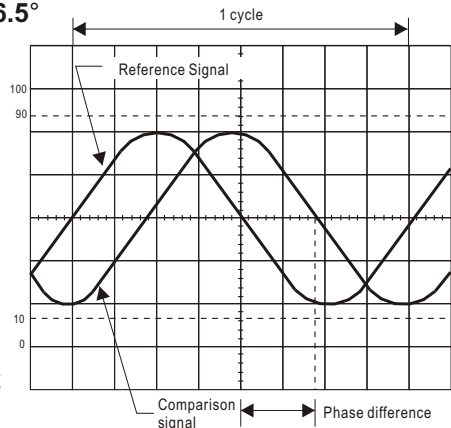

Fig. 15
In the example shown in Fig.15, a period of  $40 \mu\text{s}$  is observed. Substituting this value into the above equation, the frequency is calculated as follows:
(Refer to Fig.15)
3. Use the Y POSITION control to position the waveforms in the vertical center of the screen. Use the TIME/DIV and VAR SWEEP controls to adjust the display so one cycle of the reference signal occupies 8 divisions horizontally (see Fig.15). The TRIG LEVEL and X POSITION controls are useful in achieving this display. The display should be as shown in Fig.15, where one division now represents  $45^\circ$  in phase.
For the example shown in Fig.15, the horizontal distance is 1.7 divisions. Thus, the phase difference is calculated as follows: